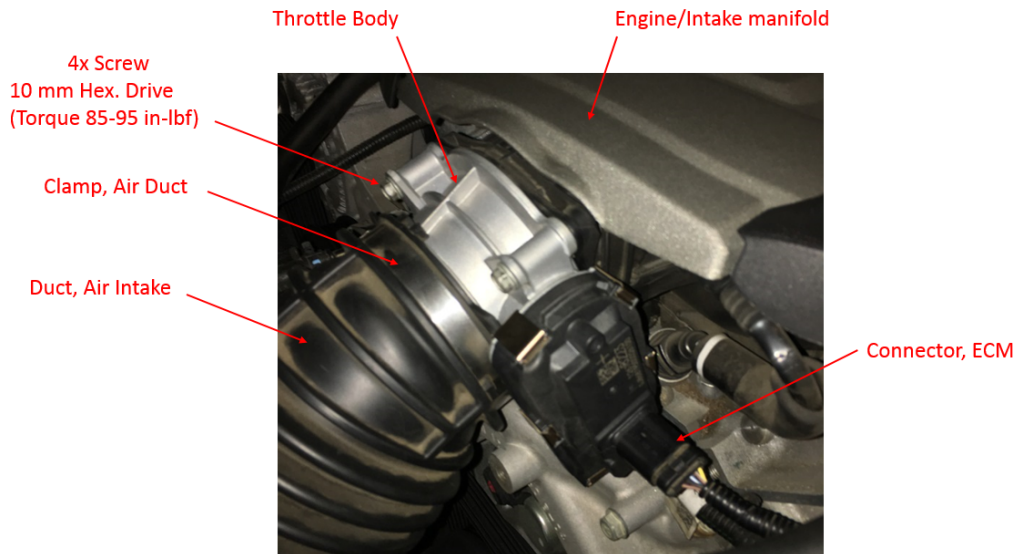

Figure 1. Throttle Body and mating components viewed from left (driver) side.
- 1- Refer to figure 1. Turn engine off and let it cool to ambient temperature, open the hood and locate the throttle body near the center of engine bay and in front of the engine.
- 2- Refer to figures 1 and 2. Disconnect the ECM connector by pulling the red clip (underside of the connector) away from the throttle body until it bottoms out. Press the tab (underside of the connector) while pulling connector away from the throttle body.
- 4- Refer to figure 1. Remove the 4x 10 mm hex drive screws (2x right side and 2x left side). Move air intake duct to the left/right as needed to gain access to screws.